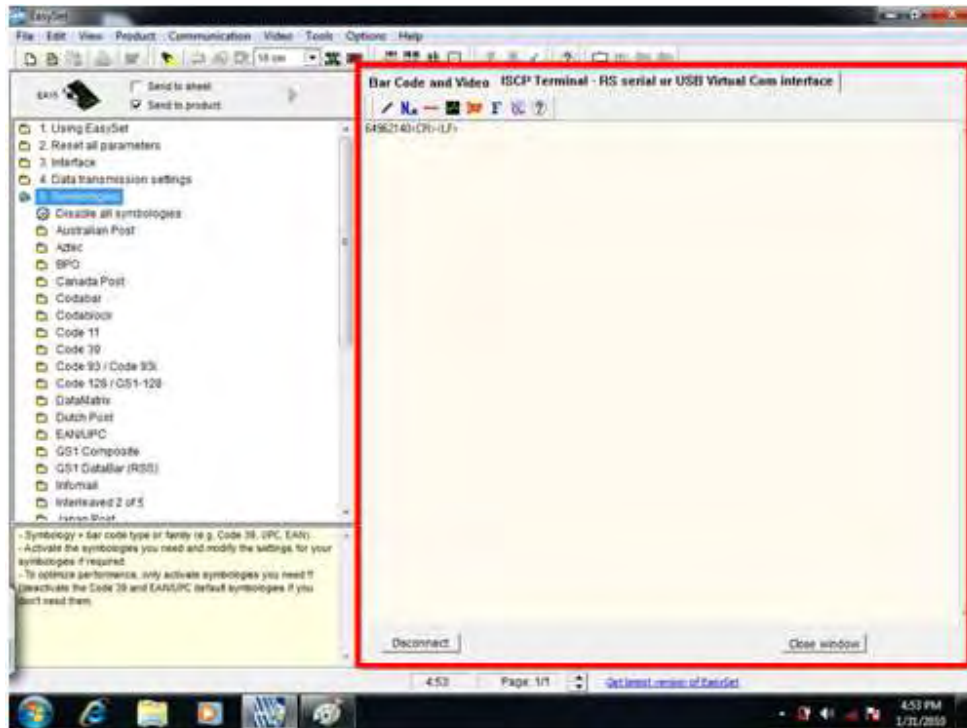

Figure 3-34: Barcode Information Display Area
Step 6: To read the barcode information scanned by the reader, select **Terminal** from the **Communication** drop-down menu. The barcodes will be displayed on the right side (**Figure 3-34**).